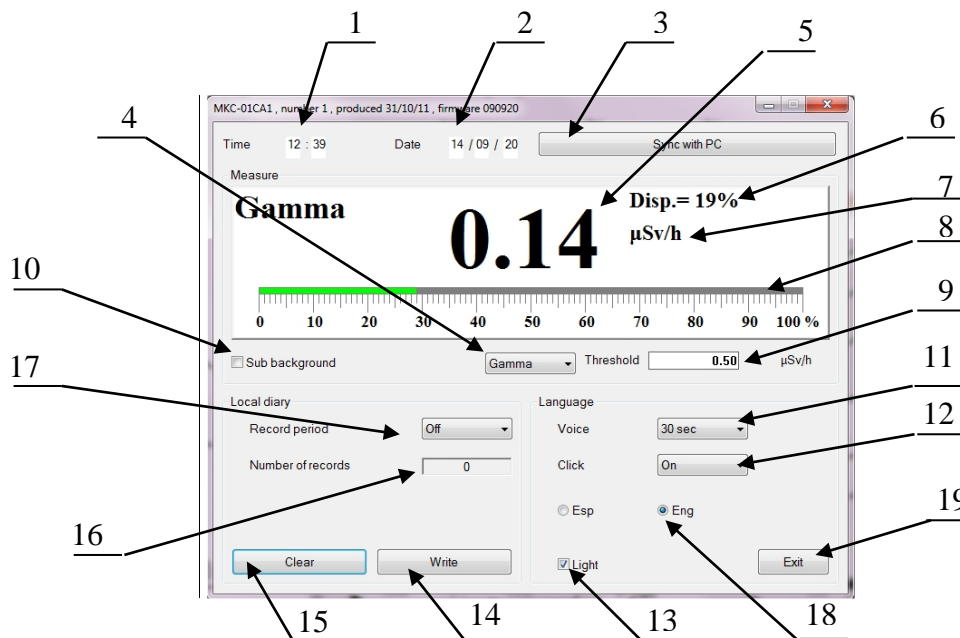

Fig.6. User's program menu
The user's program menu will be displayed on the screen (see Fig. 6).
2.8.2.2 Set date and time on the instrument. This could be done in both manual or automatic mode by pressing the button 3 (Fig. 6) «Set date & time from PC ». At that time & date set for PC will be set for the instrument.
2.8.2.3 Select the required measurement mode («**GAMMA**», «**DOSE**», «**ALPHA**», «**BETA**» or «**SCAN**»), by pressing the button 4 (Fig.6).
2.8.2.4 For automatic subtraction of the background put a mark in the window 10 (Fig. 6). Subtraction value will be shown in the window close to mark, and measured value – in the window 5 (Fig. 6) will be equal to zero.
2.8.2.5 Set the required alarm threshold for selected measuring mode in the window 9 (Fig. 6) and press Enter.
2.8.2.6 Set the required time slot for voice accompaniment of measuring results by the button 11 (Fig. 6) (30; 60 or 120 sec).
2.8.2.7 To activate audible signals - «clicks», and also the backlight of display put the mark in windows 12 and 13 correspondingly (Fig. 6).
2.8.2.8 Set the required time interval (1; 5 or 30 min) for recording of measuring results in the diary of the instrument by the button 17 (Fig. 6).
2.8.2.9 Additional, single shot record of measuring result in the diary is done by the button 14 (Fig. 6)
2.8.2.10 If maximum allowed number of records has achieved in the measuring diary (2000 records), delete files from the diary by pressing button 15 (Fig. 6). By pressing button the control question «Delete files from diary?» will appear. In the case of approval all records will be removed.
2.8.2.11 Window 15 (Fig. 6) shows current quantity of records in instrument diary.
2.8.2.12 To select language of Menu put the mark in window 18 (Fig. 6)
2.8.2.13 To finish work with **Control.exe** please press the button 19 (Fig. 6).